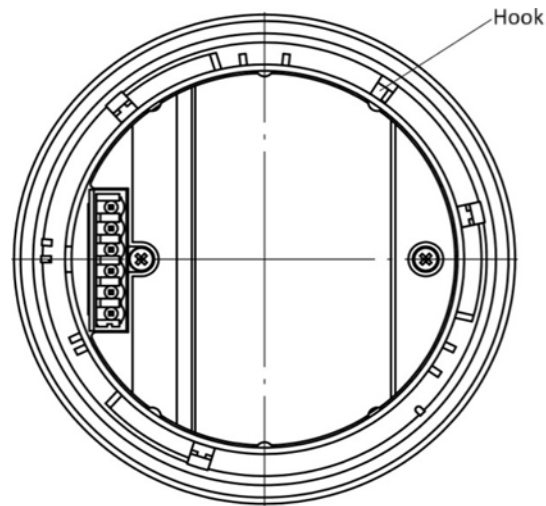

Fig. 6.1 View of the detector from below
The method of mounting and dismounting the detector is shown in Figs. 6.1 and 6.2. To disassemble the detector, you need to:
- a) press the catch (Fig. 6.1) and turn the guard in the basket clockwise until the guard is removed;